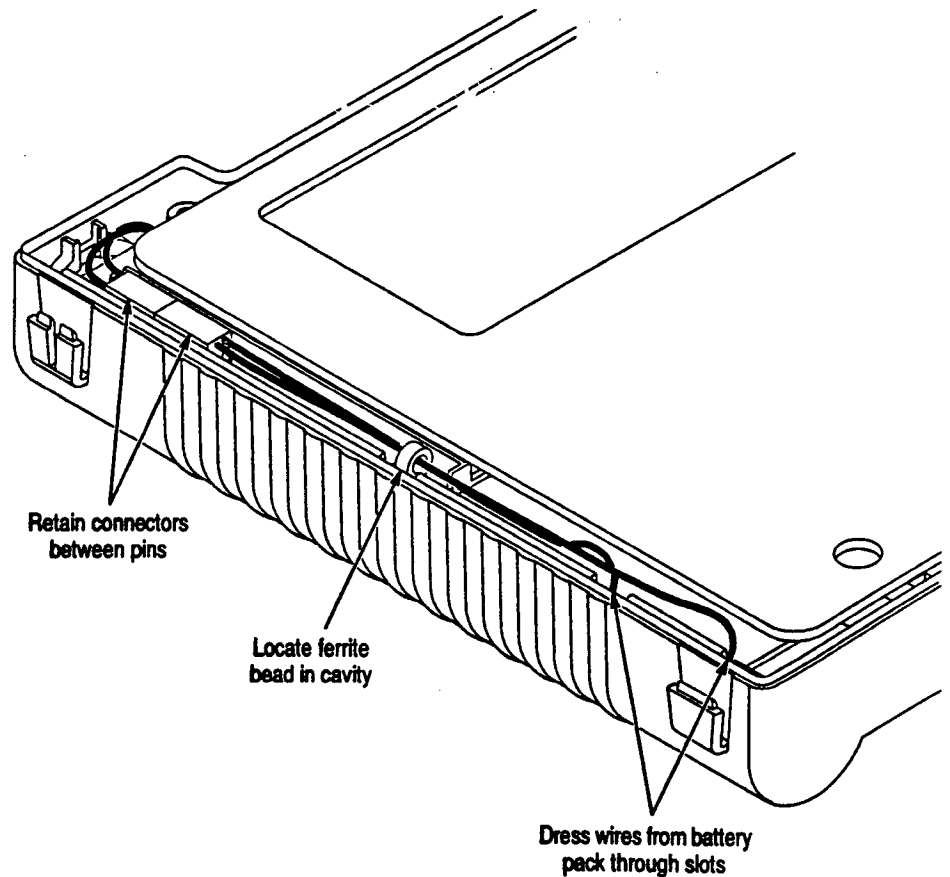

Figure 5: Routing the battery wires
13. Reconnect the battery wire connector and press it onto its retaining pins. Check that polarity of the connector is correct. Press the wires into the channel on the chassis as shown in Figure 5.